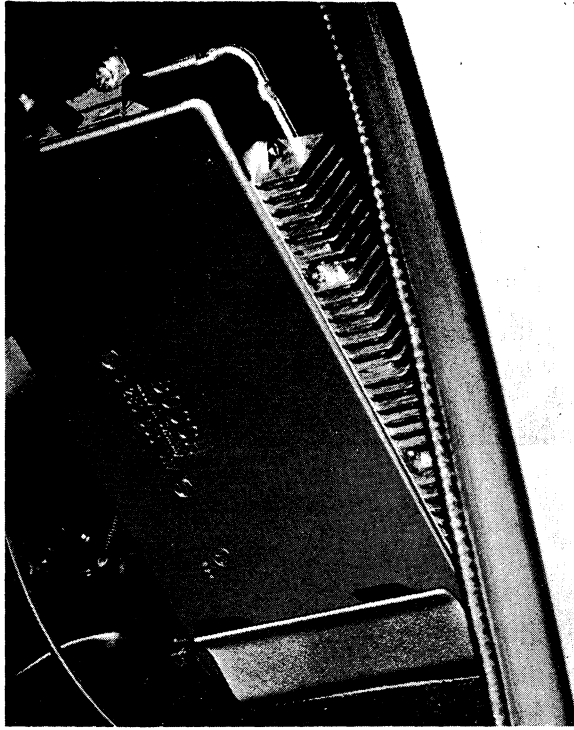

Fig. 2-85. Removing control unit
2. Remove the two screws, see Fig. 2-85, which secure the control unit. Take down the control unit.